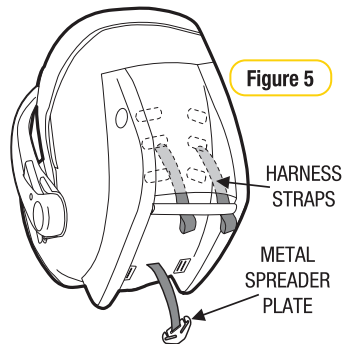

Figure 5
Step 4: Push the ends of the harness shoulder straps through the appropriate shoulder slot holes in the cover and seat shell for the child's correct shoulder height (refer Figure 5).